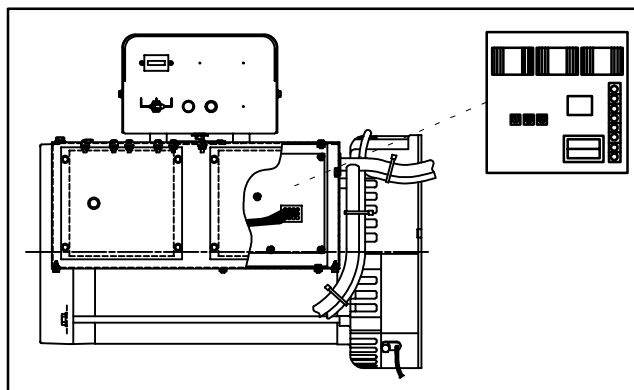

Figure 5-10 PowerBoost™ V Voltage Regulator
1. Disconnect all leads from voltage regulator. See Figure 5-10.